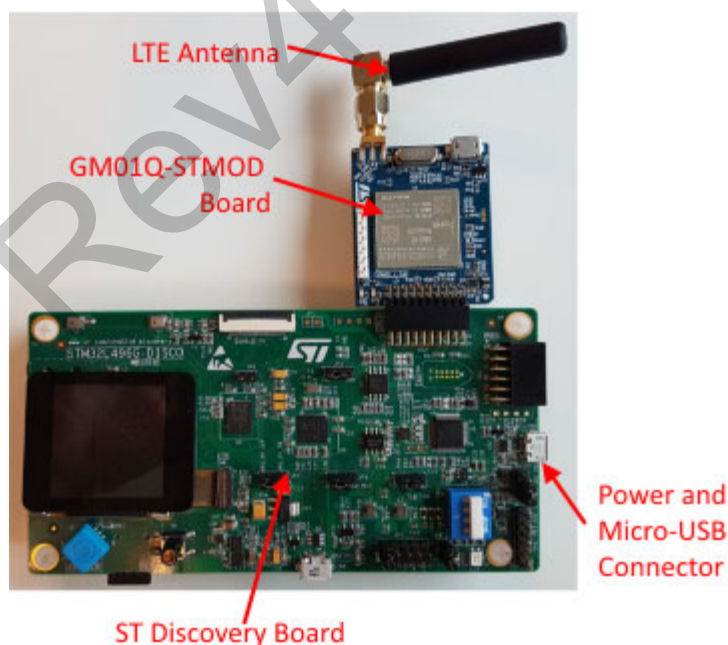

Figure 2-1: GM01Q-STMOD Test Kit Connected to Discovery Board
4. Connect the GM01Q-STMOD board to the STM32 discovery board (GM01Q module on the upper side and SIM slot on the bottom) as shown on Figure 2-1.